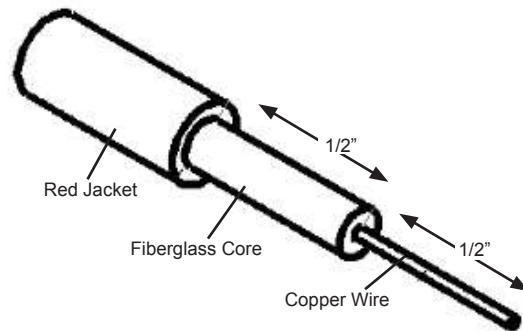

Fig. 1
2. Once jacket is removed, use pipe cutter again to score a mark around fiberglass core approximately 1/2" from edge of jacket. Use sharp knife to carefully strip away 1/2" of fiberglass core closest to rod end to expose copper wire. Be careful not to damage wire. The 1/2" portion of rod closest to jacket will remain intact (Fig. 1).